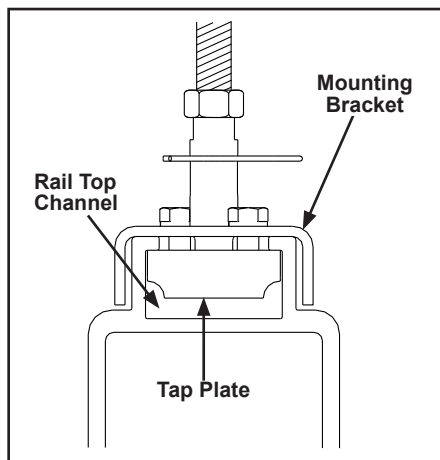

Figure 3-39
- Step 1. Remove cross bolts. Slide rail mounting bracket on top of bracket channel and tap plate into bracket channel at top of runway rail. See Figure 3-39. Position per system layout.